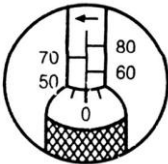

FIG1 50Nm
- 5) Lock the handle by turning the locking nut clockwise. The spanner is now set to 56 Nm and ready for use. See Figures 1 and 2.